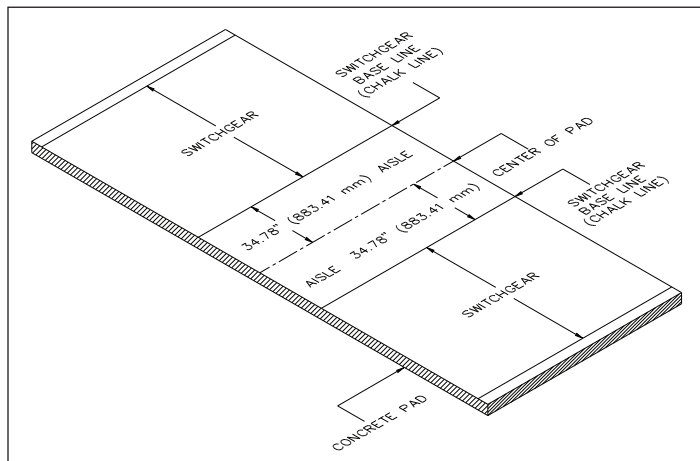

Figure 21. Openings for Wall Weld Studs.
18. Install the aisle end walls. Identify the left end door frame (as seen while facing unit one). Place gasket material (if not already installed) on the two edges of the aisle end wall. Raise the wall up to the switchgear and raise the wall over the aisle roof sheet so that the wall end trim will slide over the lip on the roof panel. (It may be easier to remove the wall end trim prior to installation. Replace after the end wall has been secured to the switchgear units.) Align the weld studs on the aisle wall to fit in the openings on the switchgear side walls (refer to Figure 21). After weld studs are in the openings, place supplied hardware over weld studs and tighten.